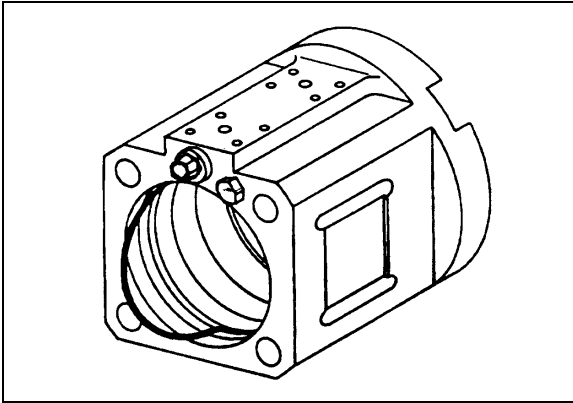

Figure 08-41: Install O-ring Into Breaker Head
1. Insert the O-ring Seal(s) (Position 303) into the o-ring groove located at the lower portion of the Head Assembly (Position 301). (Figure 08-41)